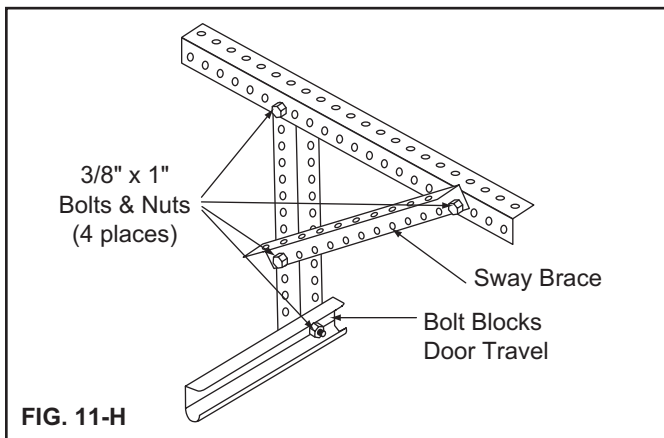

FIG. 11-H
**Step 11-8, Continued:** Adjust the position of the tracks if the squareness distances are not within 1/2" of each other. Horizontal track can be out of level up to 1" from front jamb to rear track hanger. (FIG. 11-I)